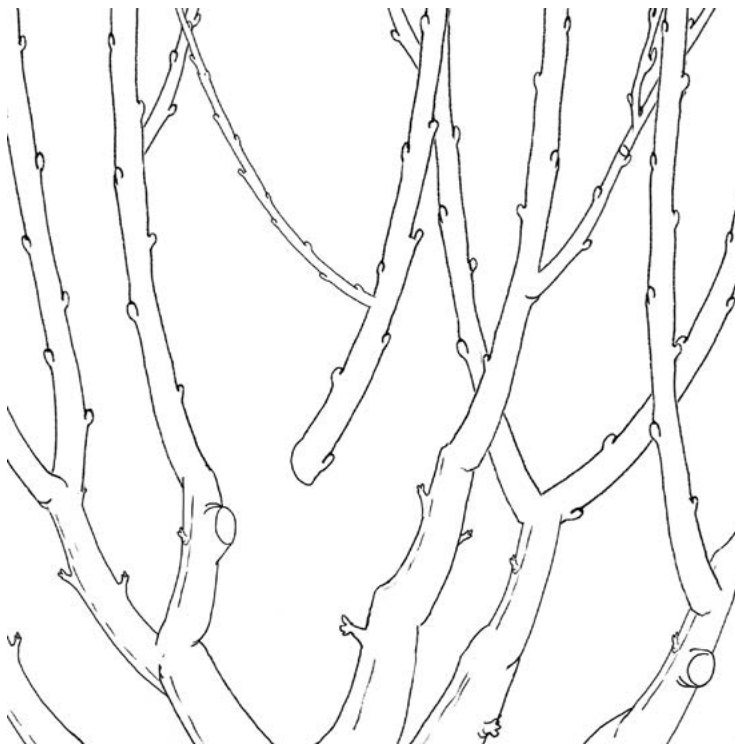

Figure 22
- If terminal growth decreases to less than 24 inches per year, remove one or more scaffolds to increase the vigor throughout the rest of the tree (Figure 22).